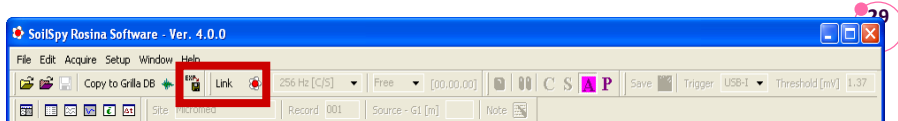
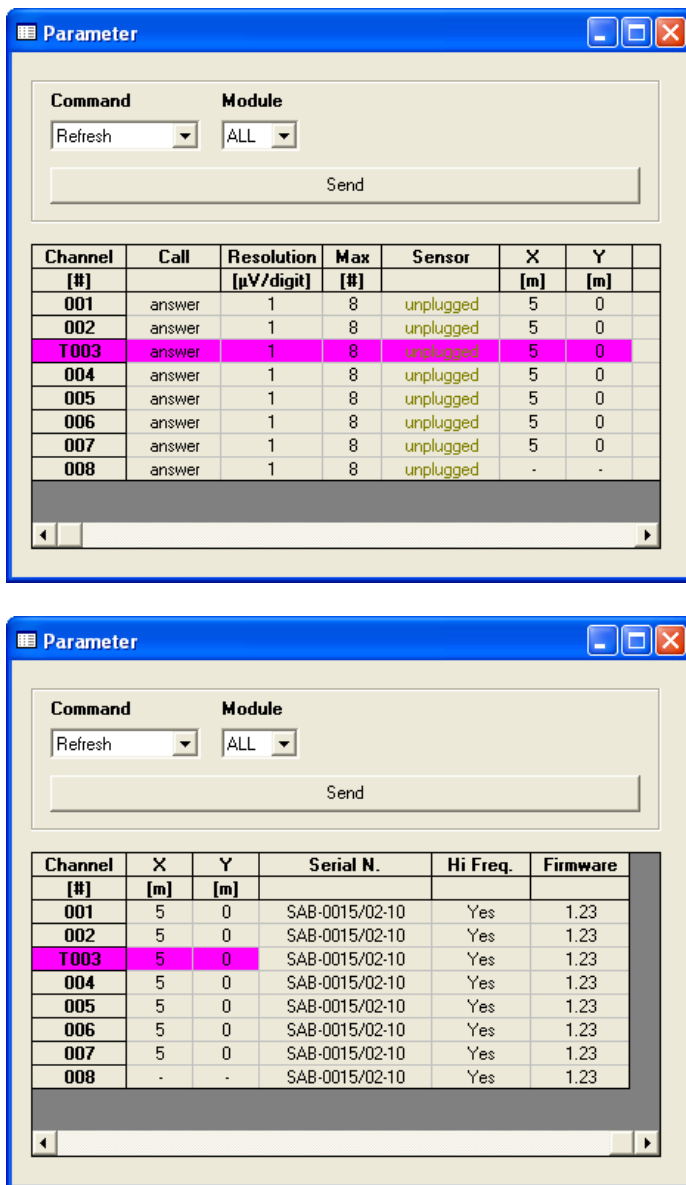

Figure 10. Main window toolbar.
Figure 11. PARAMETER window to manage the SoilSpy acquisition settings.
- 6) click the  LINK button from the toolbar and the PARAMETER window will appear (Figure 10, Figure 11),
Click LINK  on the main window toolbar (Figure 10) to let the PARAMETER window appear.
The PARAMETER window (Figure 11) is composed of a COMMAND list box to select the property to view/set, a SEND button to send the command and a frame with 10 columns.
The description of all possible parameter settings (element [1] in Figure 11) is given on p. 33.
In this step-by-step guide let us assume that the default setting is fine, that you get the “answer” message on all channels (column 2 in Figure 11), that all sensors are “plugged-in” (column 5 in Figure 11) and you want to start an acquisition. Let us see how to proceed.
To access the PARAMETER window, run the **SoilSpy** software, connect **SoilSpy** to the PC and click LINK  in the main window (Figure 10).